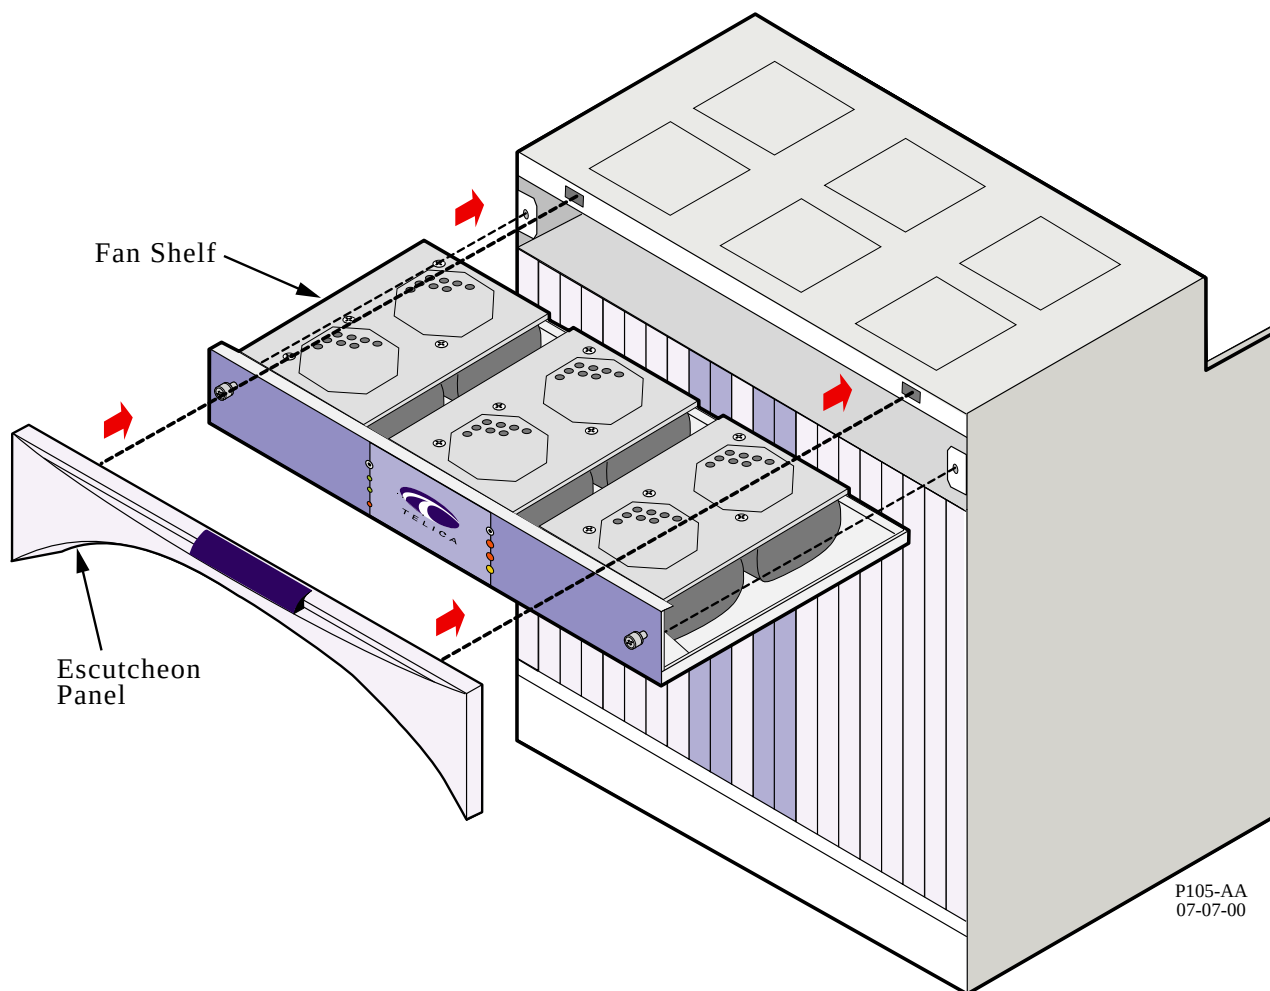

**Figure 1. Removing the Fan Shelf**
7. Wait ten (10) seconds until the fans have completely stopped spinning and remove the fan shelf from the chassis and place the shelf to the side.
8. Slide the replacement fan shelf assembly into the chassis, as shown in Figure 1 and connect.
10. Attach the front Escutcheon panel to the front top of the chassis as shown in Figure 1.